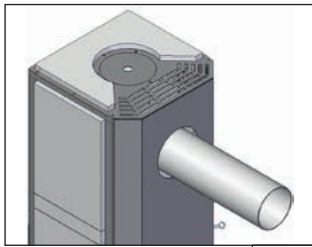
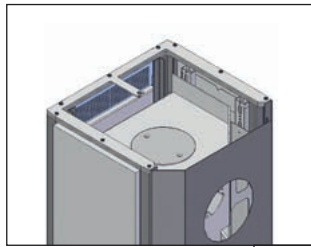
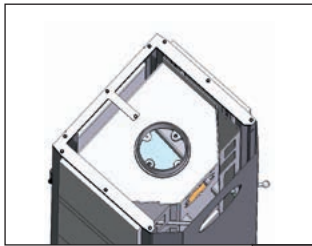
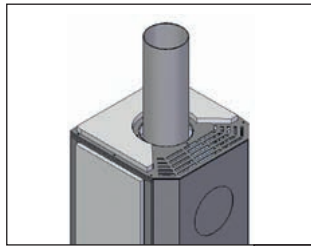

Fig. 3a
Fig. 3b
Fig. 3c
Fig. 3d
**Assembly from the rear to the top:** If the chimney connecting piece is already assembled, please remove (Fig. 3a). Remove the two cover lids at the top (Fig. 3a). Undo the hexagonal bolts and remove the cover plate (Fig. 3b). Then disassemble the pipe nozzle of the rear outlet, to this end undo the screws (Fig. 3b). Assemble the pipe nozzle on the top flue gas connection (Fig. 3c). Then assemble the cover plate on the rear flue gas connection (Fig. 3c). Finally reassemble the cover lid for the rear flue connection, the chimney connecting piece and the cover plate (Fig. 3d).